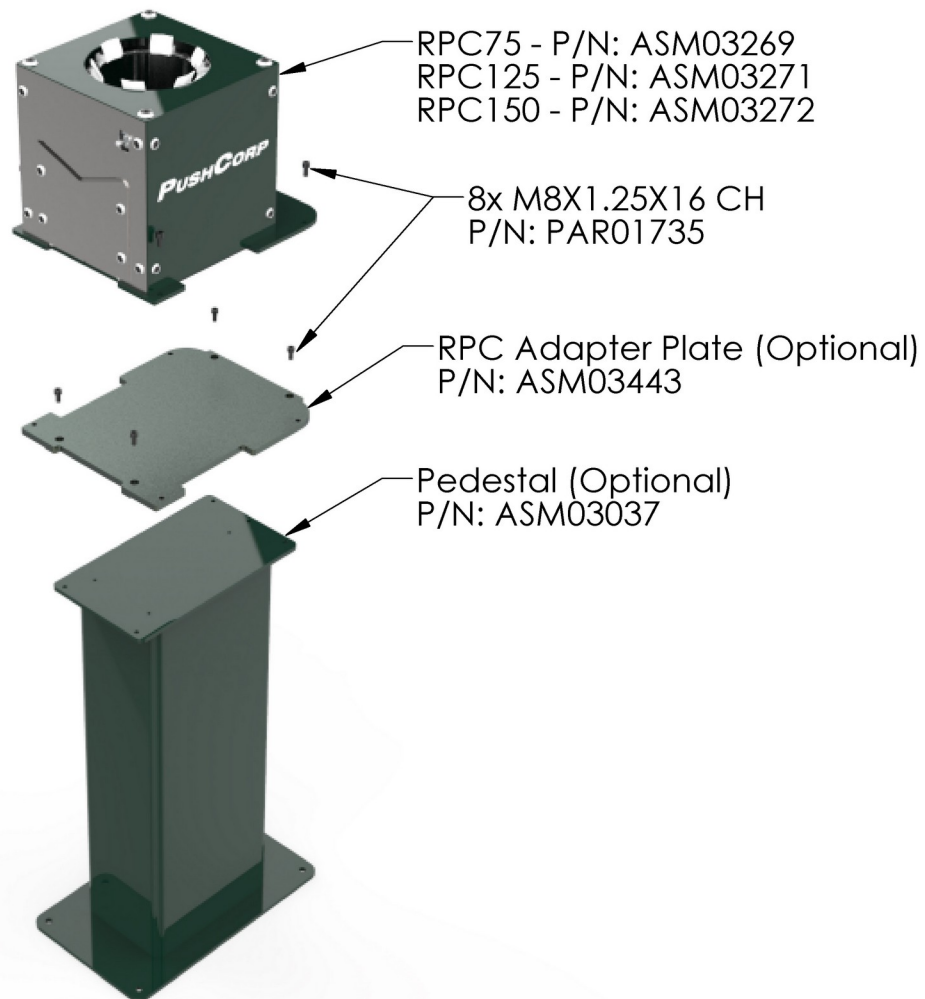

Figure 1: RPC100 Mounting Assembly
Step 2: Securely attach adapter plate to the RPC100 plate as shown in figure 1.